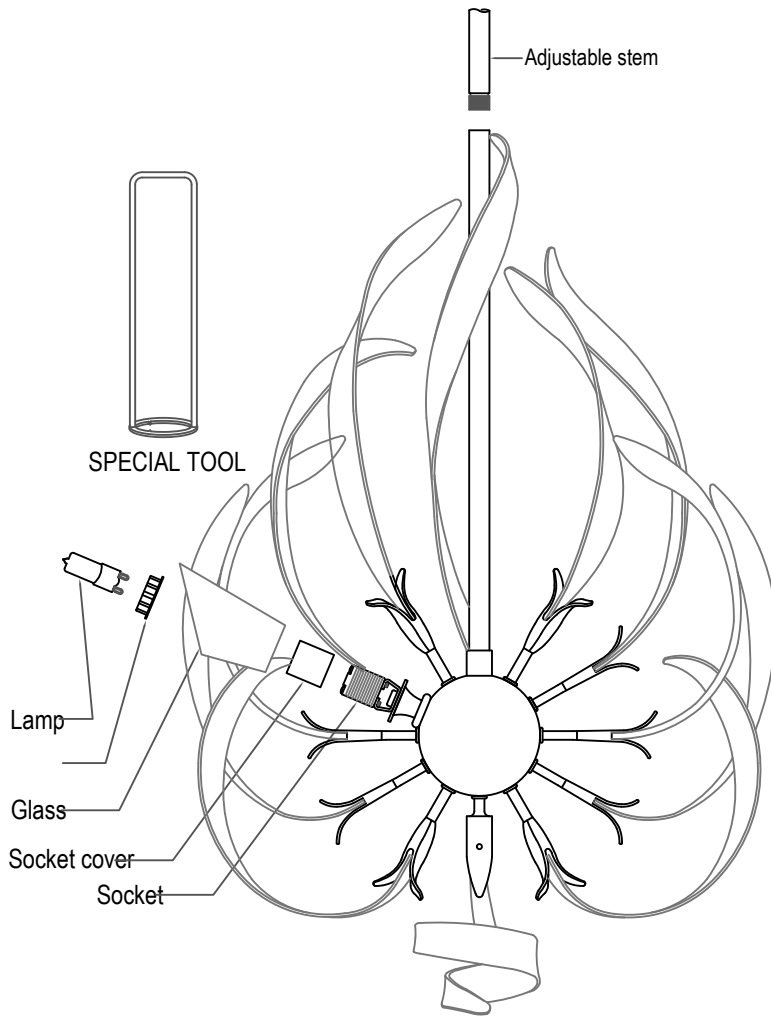

FIGURE-3
9. Place the glass (See figure-3) using the special tool supplied.